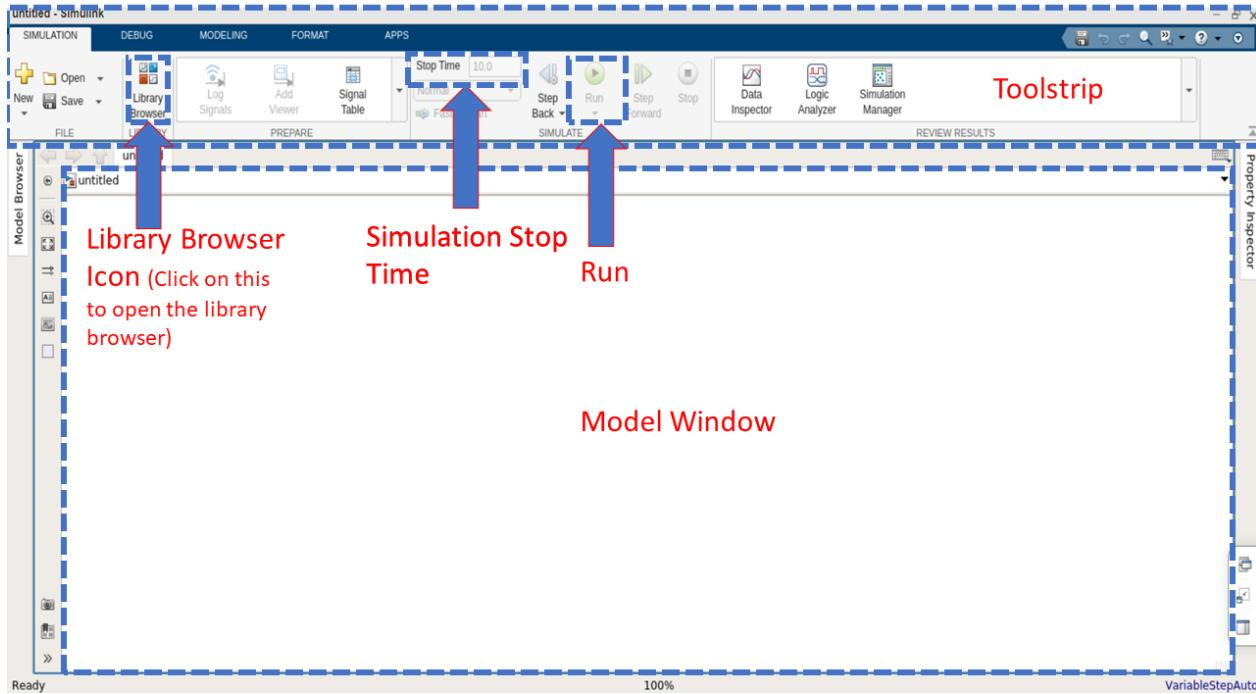

Figure 2.3: The Simulink Layout
Figure 2.3 shows the Simulink Layout. To construct a Simulink model, you first copy blocks from the Simulink Library Browser to the Model window. As shown in Figure 2.3 Simulink Library Browser can be opened by the Simulink Library Icon located in the toolbar.
4. Set the simulation stop time to 20s (shown in Figure 2.3).
5. Now simulate your sample model and observe the results. To run the simulation click *Run* button shown in Figure 2.3.